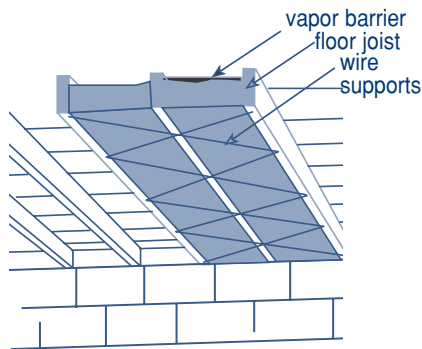

Figure 17: Cut insulation to fit band joist between the sill and subfloor.
Step 1: Purchase R-19 batt or blanket insulation with an attached vapor barrier. Buy the width that best fits the floor-joist spacing and look for insulation labeled “friction fit.” This means the product is slightly wider, a feature that makes installation easier. To secure the insulation in place, use a wire-spring clip or wire mesh (Figure 17).